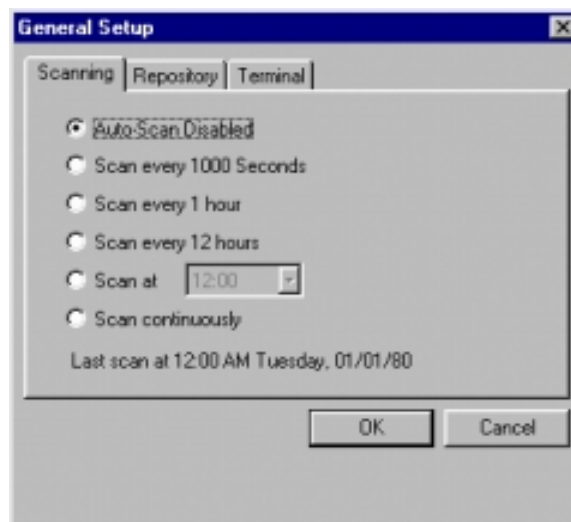

Figure 2- 23. General Setup dialog box
Choose *General . . .* on the *Setup* menu to open the *General Setup* dialog box (Figure 2- 23). The tabs in this dialog box present options for defining how TSMWin32 scans connected TSGs, where and for how long TSMWin32 saves scanned data, and how TSMWin32 connects to attached TSGs.
- *Scanning*: Click options on the *Scanning* tab of the *General Setup* dialog box (Figure 2- 23) to configure TSMWin32 scanning or view last scan time: